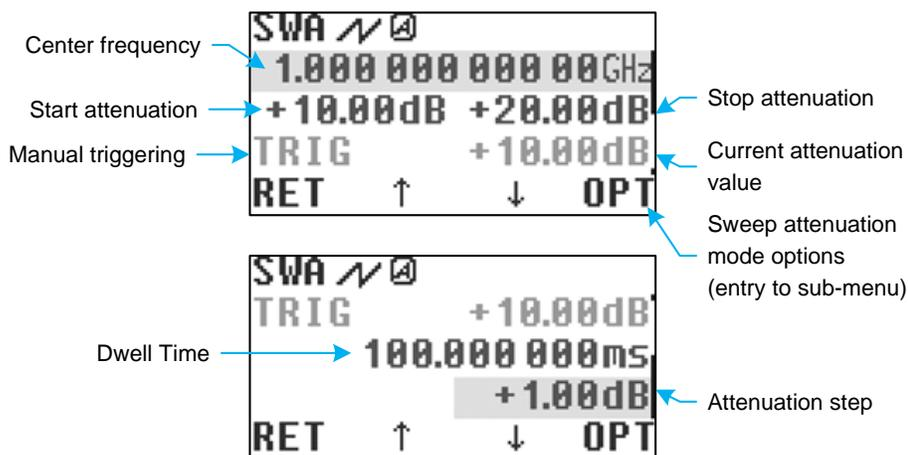

Figure 11: Sweep attenuation operation mode menu (Operation Modes ▷ Sweep Att.)
to setup the sweep mode. T_{Sweep} – time of one period. SWA mode has the following parameters (fig. 11):
- Manual – triggering event performed manually by pressing TRIG softkey (see fig. 11);
- Dwell Time – this sub-menu item duplicates the corresponding menu item in fig. 11;
- Att. Step – (attenuation step) this sub-menu item duplicates the corresponding menu item in fig. 11;